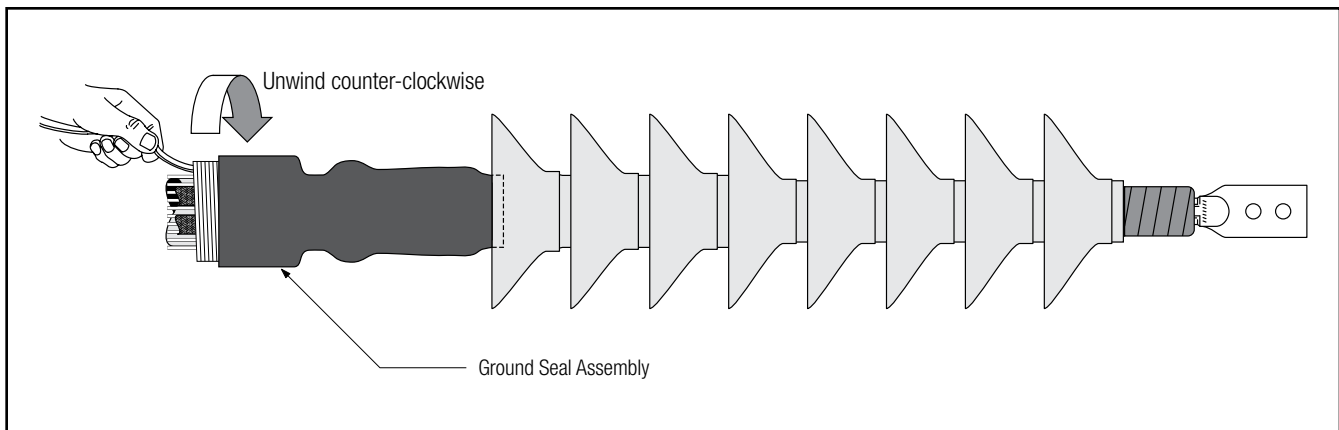

Figure 27
- 8.1 Slide the parked ground seal assembly onto the termination. Start to shrink underneath the first skirt. Remove the core by pulling the loose end while unwinding counter-clockwise. (*Figure 27*)